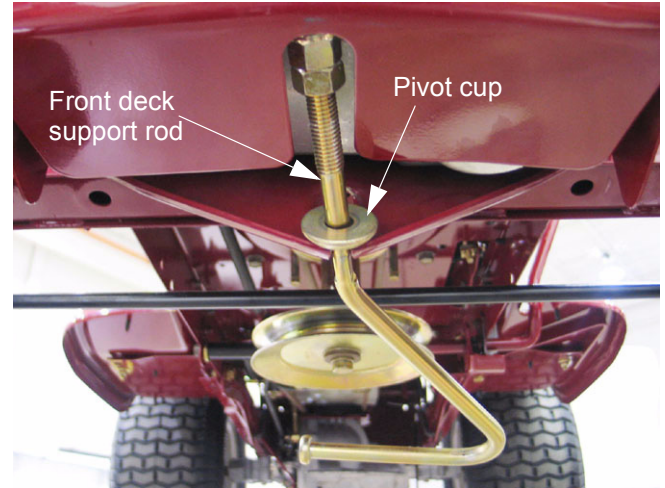

Figure 3.1
- 3.1. The front deck support rod is easily removed by slipping it forward until the coined spot slips through the opening in the bracket that supports it. See Figure 3.1.